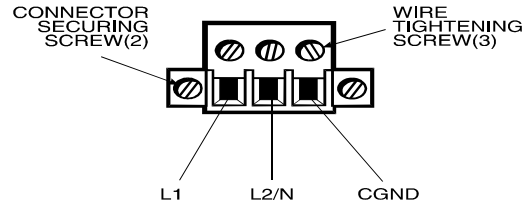

Figure 3-20. AC Power Connector
4. Insert the three wire ends of the power cable into the three holes of the block plug. Insert the Protective Earth GND ground, L1, and L2/N wires into the corresponding holes, as shown in Figure 3-20. Be sure that no bare wires are exposed.
2. Create a panel cutout. Refer to the dimensions in Figures 3-20 through 3-23.